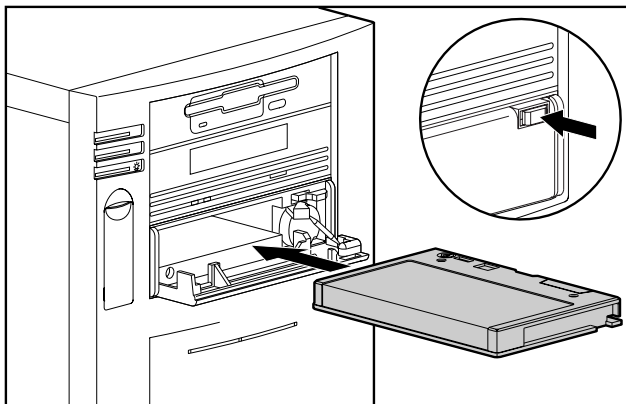

Figure 4-2. Loading a Cartridge
2. Insert the cartridge. Ensure that the cartridge is correctly oriented. (See Figure 4-2.)